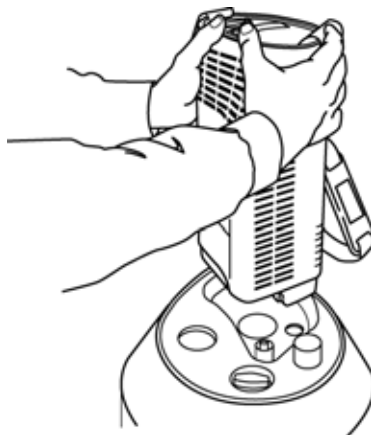

Figure 11: Positioning the Portable Unit for Filling
3. Hold the Companion Portable with both hands and position the contoured case over the matching recessed area in the top of the Stationary (Figure 11).